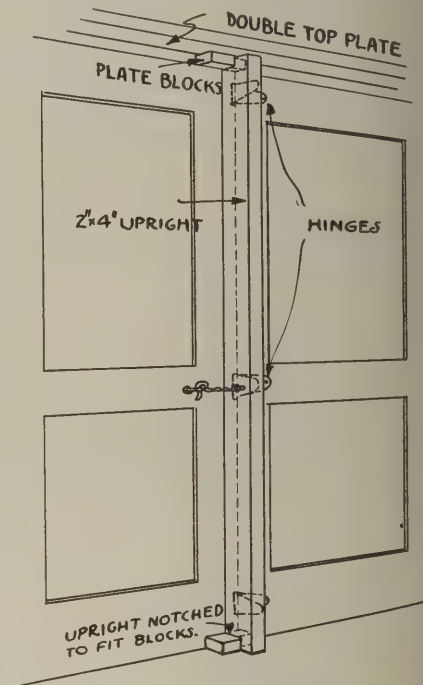

Fig. 6—Garage door bar
G. W. H., of Boone, Iowa, sends this: "I am enclosing a 'kink' for fastening swinging double garage doors on the inside. Since I ran across the idea shown in Fig. 6 I have never failed to get a good,